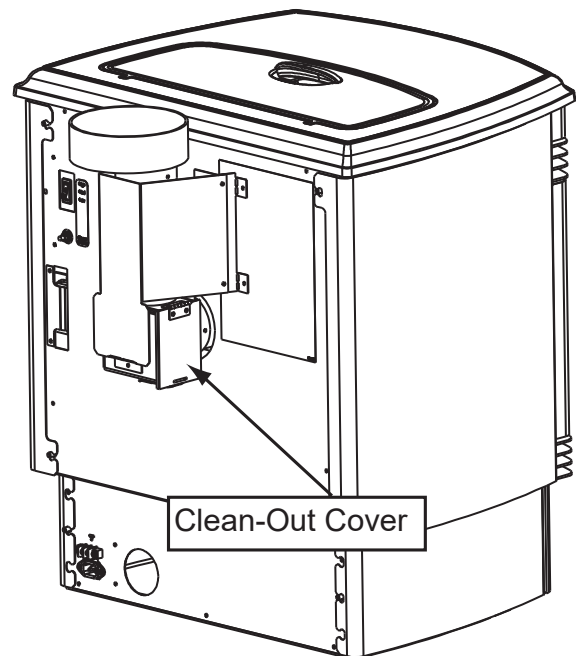

Figure 21.1
- Open the clean out cover (**See Figure 21.1**).